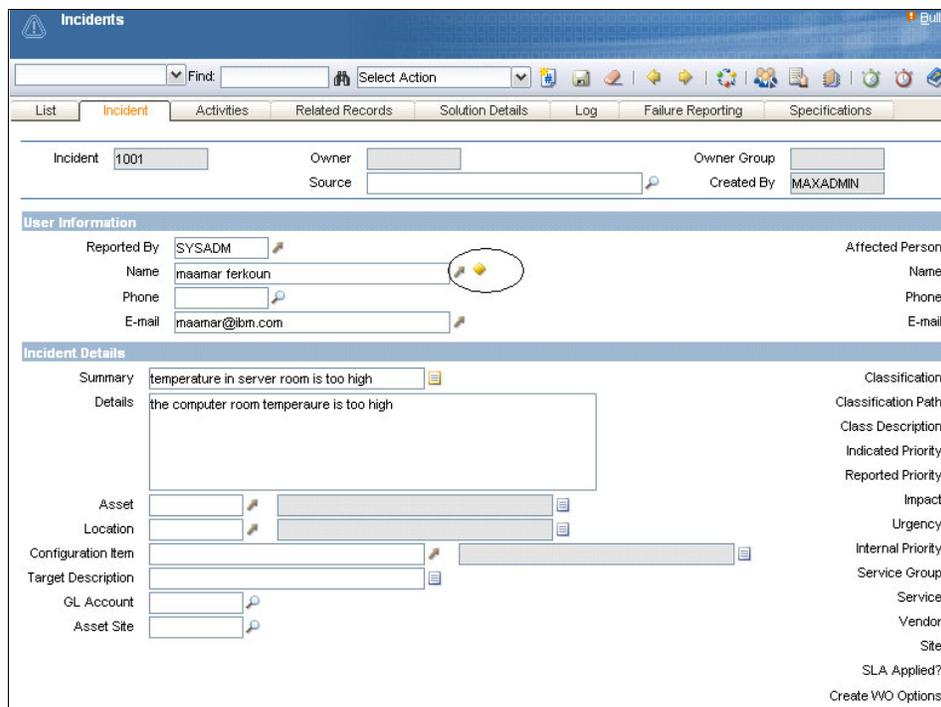

Figure 7-13 Away status
5. The user status display shows as being away (Figure 7-13).